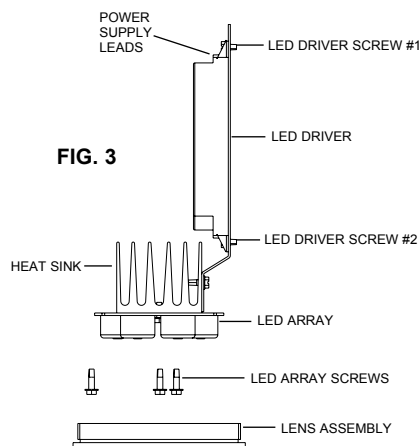

FIG. 3
3. Pull the LED array assembly from the fixture (Fig. 3).
2. Remove the lower lens assembly by rotating the end cap counter clockwise (Fig. 3).
4. Pull the lower LED array assembly from the fixture (Fig. 3).
6. Remove driver screw #1 (keep for later assembly), and loosen driver screw #2 (Fig. 3).
7. Replace the driver, secure with screw #1, and tighten screw #2 (Fig. 3).
9. Slide the lower LED array assembly back inside the fixture (Fig. 3).\*